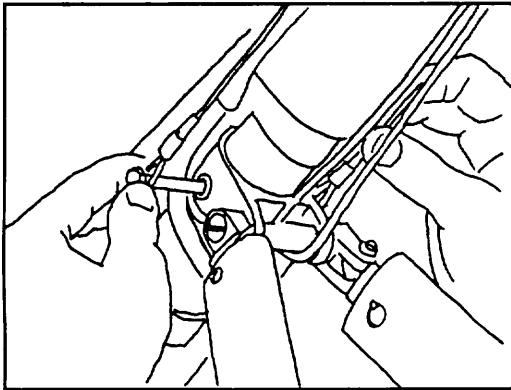

Figure 21
13) Next, install the crossbar sweep wire restraint bolt through the keel, attach the thimble for the sweep wire on the other side, and secure it with the wingnut and safety provided. (Figure 21, 22) **If you tied off the perlon pullback, untie and release it *now*.** You may stow the perlon in the bottom surface.